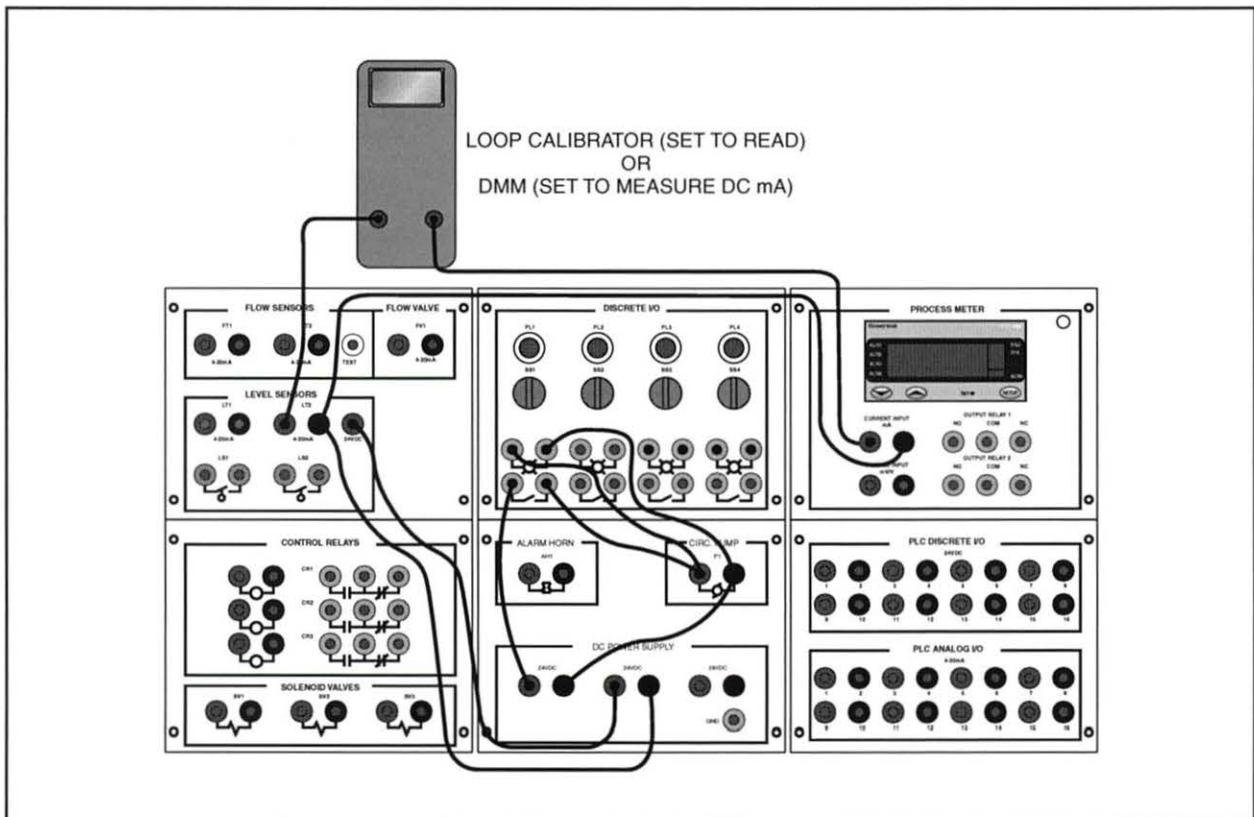

Figure 37. Calibration Circuit
- 3. Connect the circuit shown in figure 37.